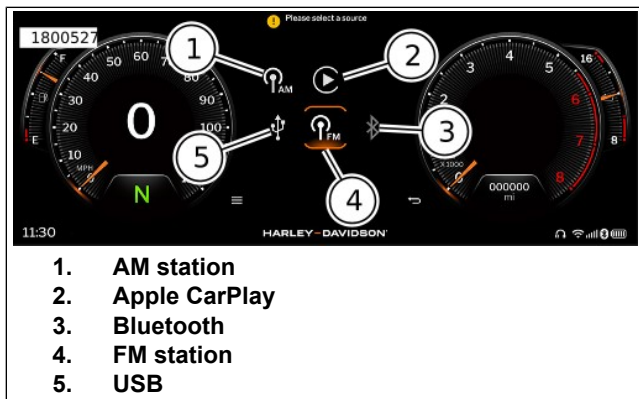

Figure 63. Selecting Source
See Figure 63. Select the desired media source by pressing OK/enter (5) button on LHCM or pressing icon on the screen.